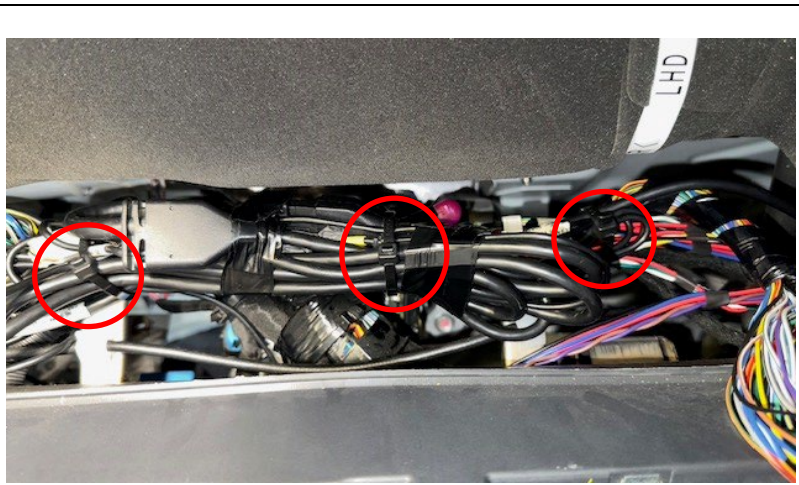

Figure 88
94. Secure the bundled Mobileye harnesses to the IP harness using three (3) zip ties. (See Figure 88.)